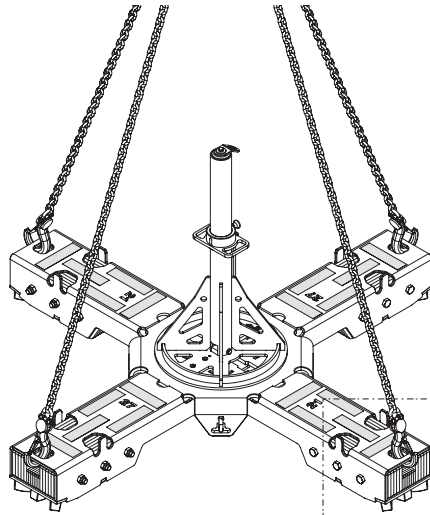

Fig. B4.01
- For lifting operations, only ever use the transport lug (3.4). Do not use the transport lug (3.4) to safeguard people! (Fig. B4.01)